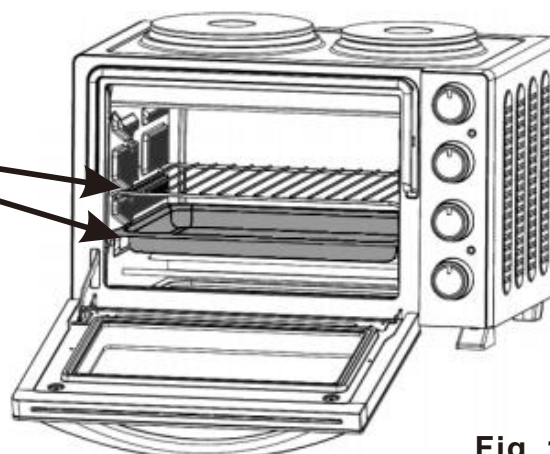

Fig. 1
- Where to fit the baking tray and rack - Fig 1
Slide the grill rack and / or baking tray onto the rack supports (Fig. 1)